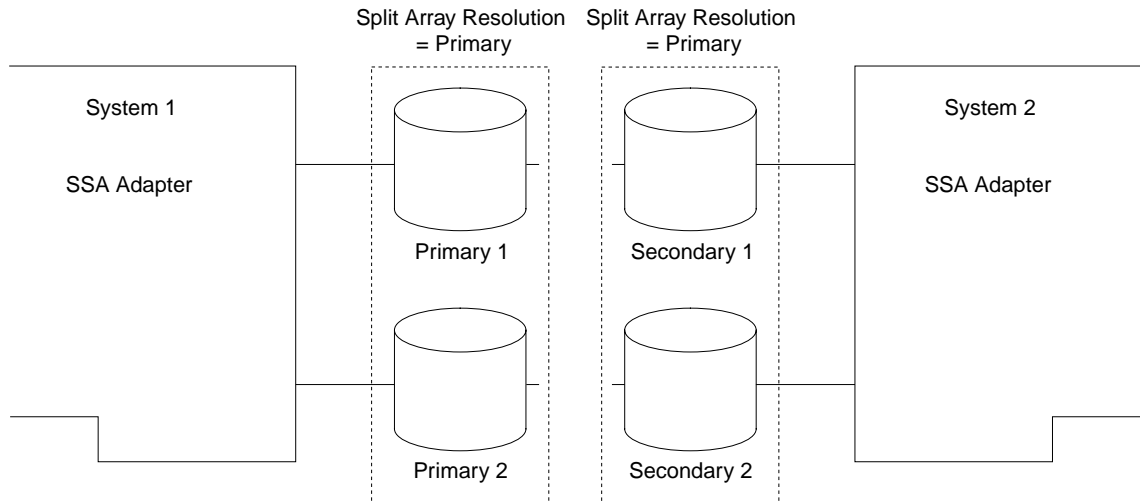

Figure 32. System 1 Split from System 2
**System 1 Split from System 2:** Figure 32 shows system 1 split from system 2.